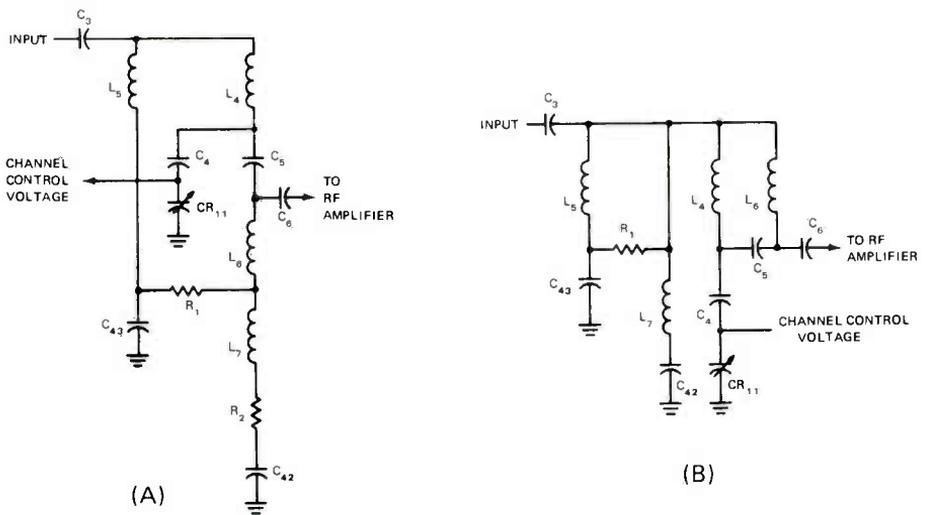

FIGURE 4. EQUIVALENT CIRCUIT OF RCA KRK 155 VHF TUNER. (A) CHANNELS 2-6. (B) CHANNELS 7-13.
Figure 4(A) is a simplified diagram of the input tuning circuit when a tuner is set to the low vhf channels. Figure 4(B) is a simplified diagram when the tuner is set for the high vhf channels. Notice that in the low-band position, the input signal is fed through C_3 to a parallel tuning network. One branch of the network consists of L_5 and C_{43} , which are connected in series to ground. The other branch consists of L_4 , C_5 , L_6 , L_7 , R_2 , and C_{42} , all connected in series and to ground. They are tuned by CR_{11} which is connected in series with C_4 to the junction of L_4 and C_5 . The different voltages applied to CR_{11} change the capacity and hence select the desired station.
Now look at Figure 4(B) and see how the conducting diodes which act as closed switches have rearranged the circuit. Now the signal comes in through C_3 to several parallel branches. You have L_5 in series with C_{43} as one series circuit, L_7 in series with C_{42} as another circuit, and finally the combination of L_4 and L_6 . L_4 and L_6